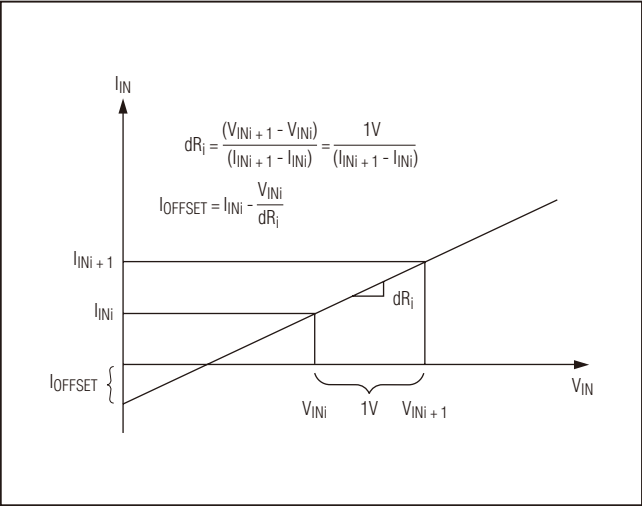

图2. 有效差分电阻和失调电流
**Note 4:** The input offset current is illustrated in Figure 2.
**Note 5:** Effective differential input resistance is defined as the differential resistance between  $V_{DD}$  and GND, see Figure 2.
将辅助电源连接至WAD，在WAD和 $V_{DD}$ 之间连接一个二极管，并在WAD和 $V_{CC}$ 之间连接一个二极管，参见图2典型应用电路。